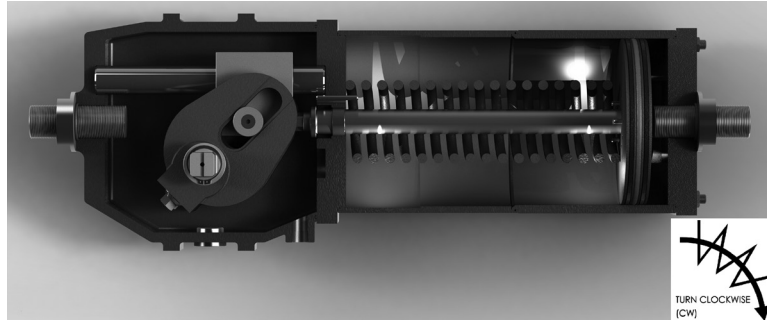

Figure 16: Single Acting Actuator Configuration: Fail Close – Fail Clockwise
**NOTE:** In the LPC Compact Actuator Series, in single acting execution, the spring is located inside the pneumatic cylinder, as shown in Figures 16 and 17.